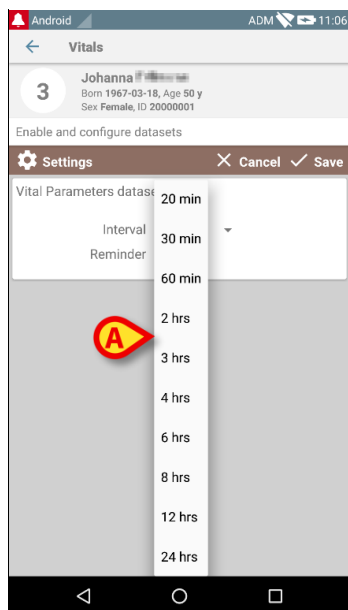

Fig 73
- Touch the “Interval” menu to decide the dataset timing (Fig 73).